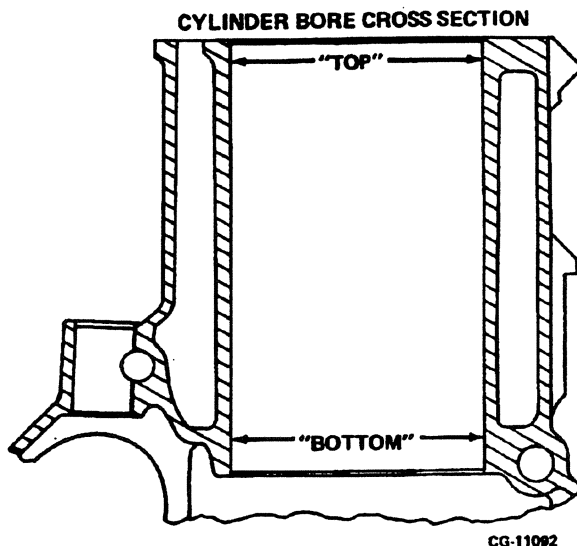

Figure 5.20. Checking Cylinder Bore Taper
- e. Cylinder bore taper is the difference between the cylinder bore diameters measured at the "Top" of ring travel (Figure 5.20) and the "Bottom" of ring travel (Figure 5.20) (AT RIGHT ANGLES TO THE CENTERLINE OF THE CRANKSHAFT).